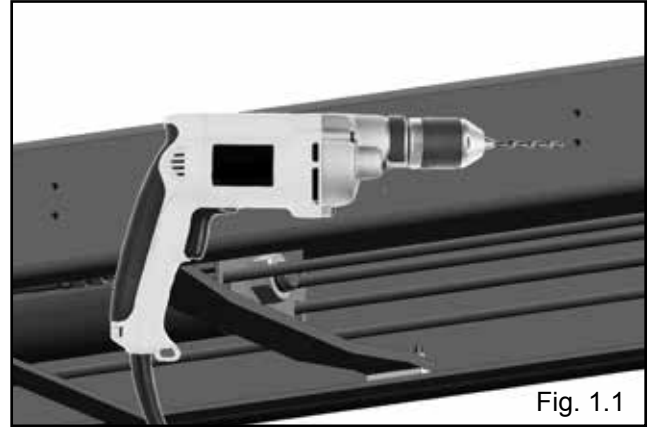

Fig. 1.1
5. Once desired location is selected, use the Limit Switch Bracket mounting holes as guides and drill four holes in the side of the Runway. (See Fig 1.1)